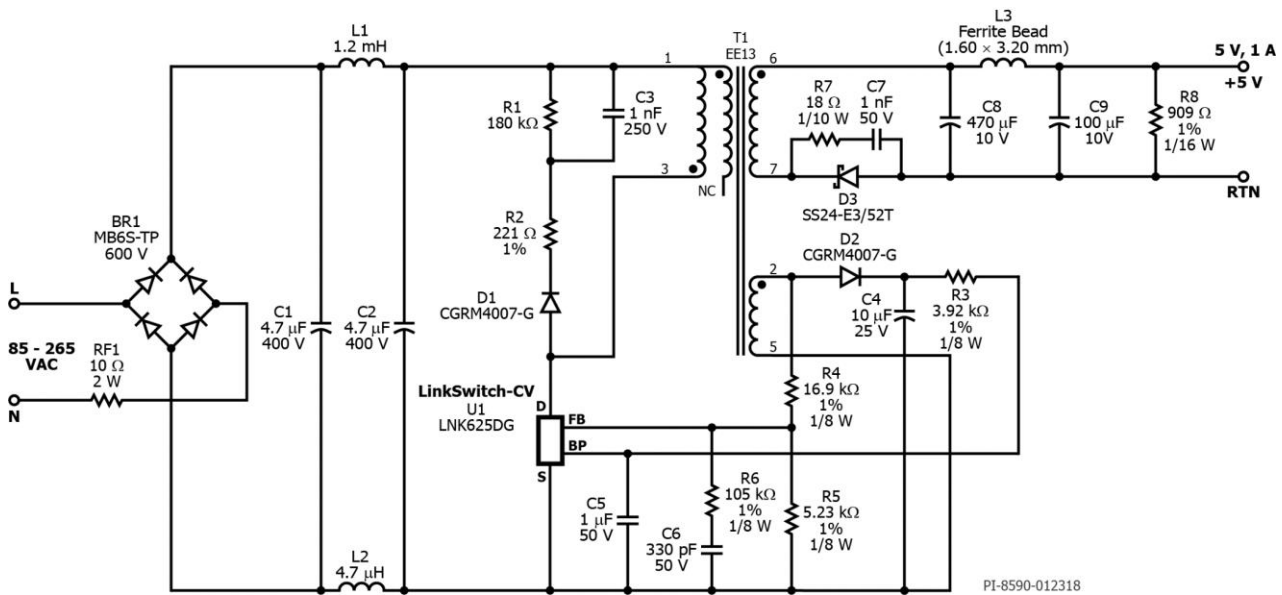

Figure 2 – Schematic.
The schematic in Figure 2 shows an adapter design using the LNK625DG IC that provides constant voltage (CV) performance. The circuit is designed to operate from 85 VAC to 265 VAC input, with an output voltage of 5 V providing a maximum load current of 1 A. It consumes very little standby power and uses no Y capacitor but still meet stringent EMI requirements.